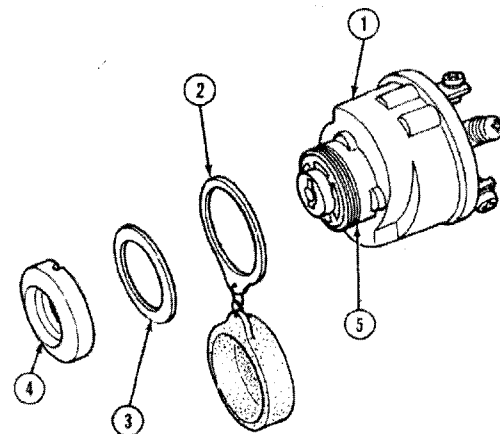

Figure 18
2. Remove the retaining nut (4) and remove the switch (1), Figure 18.